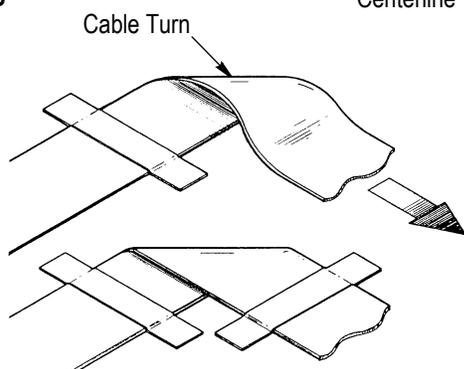

Figure 4
- a. Tape the edges of the cable to the floor approximately every 1.83 to 3.66 m [6 to 12 ft]. See Figure 4, Detail A.
- b. Fold the cable to make directional changes (turns). See Figure 4, Detail B.